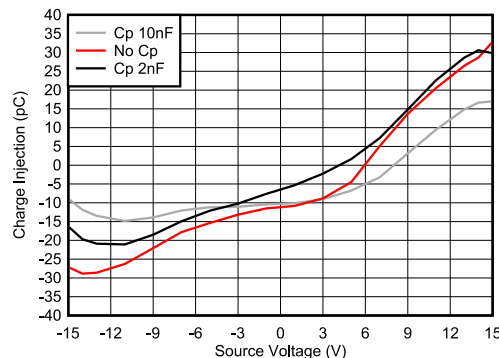

図 7-3. Charge Injection Compensation
The TMUX6219 contains specialized architecture to reduce charge injection on the source (Sx). To further reduce charge injection in a sensitive application, a compensation capacitor (Cp) can be added on the drain (D). This will ensure that excess charge from the switch transition will be pushed into the compensation capacitor on the drain (D) instead of the source (Sx). As a general rule, Cp should be 20× larger than the equivalent load capacitance on the source (Sx). 図 7-3 shows charge injection variation with source voltage with different compensation capacitors on the Drain side.